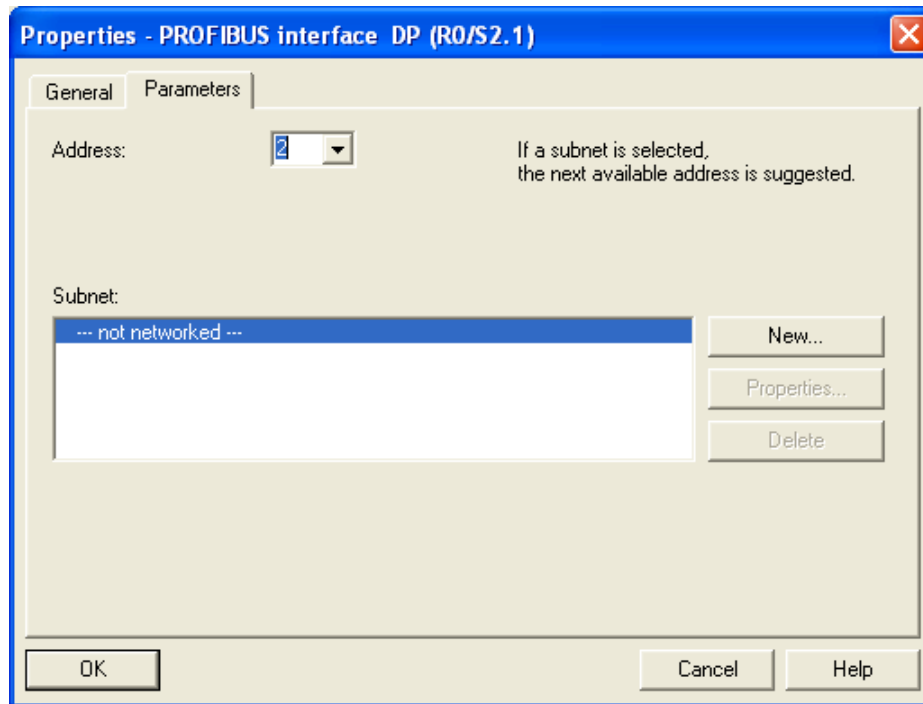

Figure 7-12
4. Select “Address” in the dialog box to be the address of the master. Then click “New” to go to the next dialog box. See Figure 7-12.